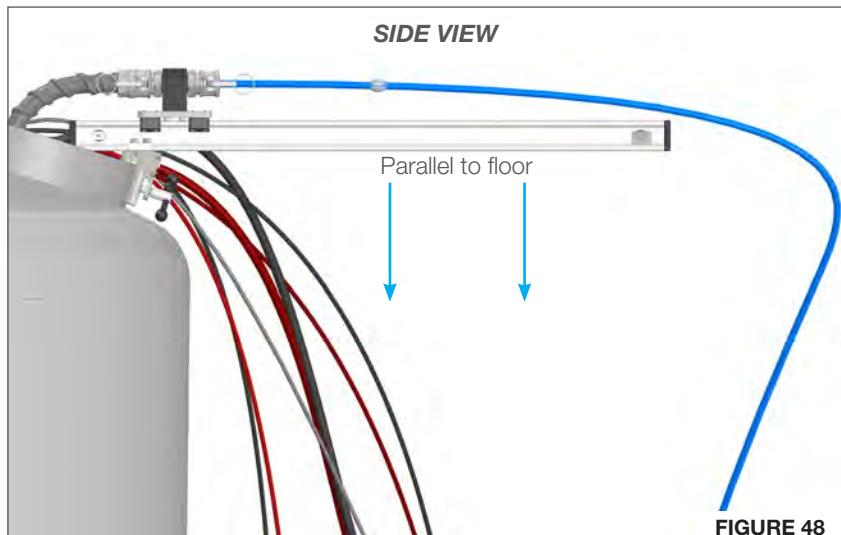

FIGURE 48
3. Make sure the Rail Mount is close to level to the floor, then securely tighten the Twist Knobs on the Trolley Clamp. If the Rail Mount comes loose it could cause damage to other components. (**Figure 48**)